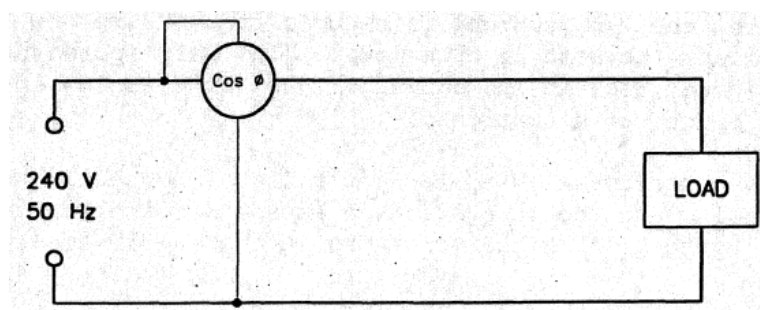

Figure 5 – Power factor meter connections
25. The power factor of a circuit can be measured directly with a power factor meter. A power factor meter is usually marked 'Power Factor' or ' $\cos \theta$ ' and it is of the 'centre zero' type so that it can indicate either leading or lagging power factor. The connections for a typical single phase analogue power factor meter are shown in Figure 5 – the connections are similar to those on an analogue wattmeter.